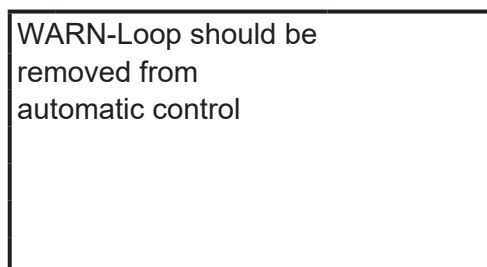

Figure 35 Warning for current adjustment
2. After a brief pause, a message 'WARN-Loop should be removed from automatic control' will appear. (Figure 35) If the control system is not affected by the forcible change of the current signal, press F4 (OK). Otherwise, press F4 (ABORT) to return to Diag/Service menu.